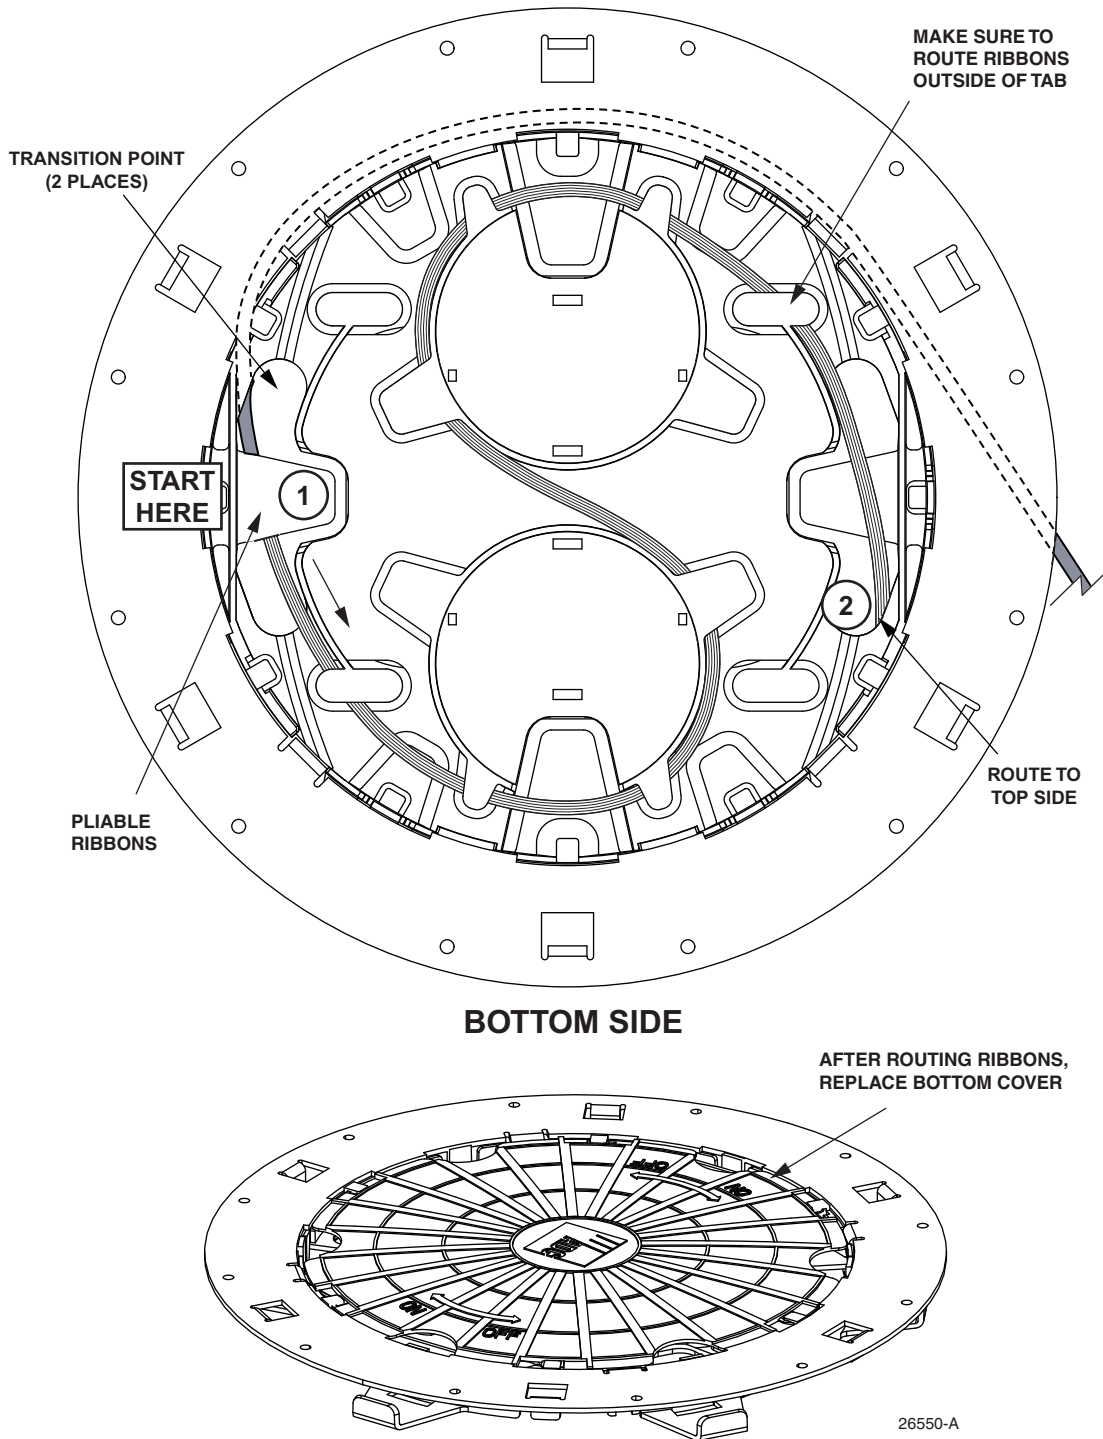
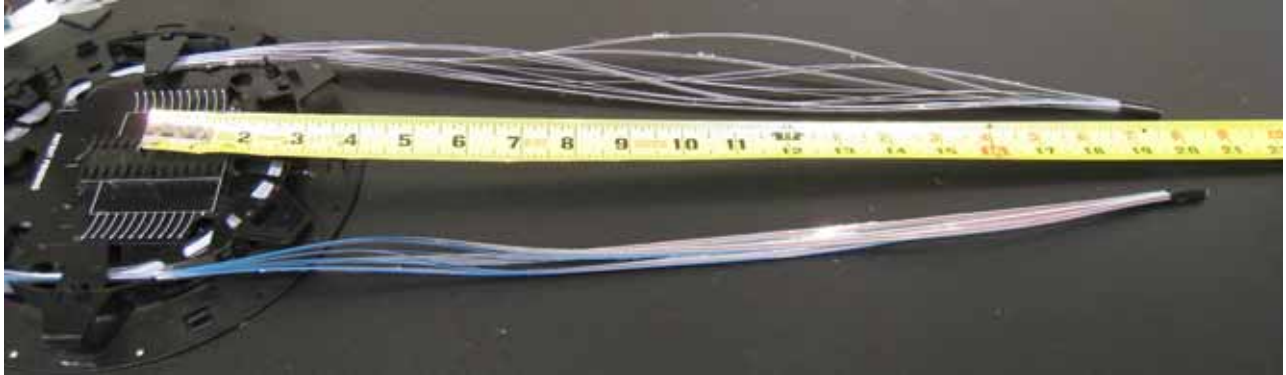

Figure 27. Pliable Ribbon Routing, Bottom Side (Clockwise Roll-Up Procedure), continued
Figure 28. Measuring Pliable Fibers for Cutting
1. Position the cable so the fiber breakout is positioned at the transition point from top to bottom (just beyond felt tape shown in Figure 27. Then route and tie down the fibers as shown in Figure 27.
- ▶ **Note:** The circled numbers shown in Figure 27 and Figure 28 are provided as an orientation aid when flipping the cable tray over.
2. Flip the tray over and continue routing the pliable fibers around the spools and back to the top side, as shown in Figure 27. After routing on bottom side, replace bottom cover.
3. Flip the tray over to the top side and extend the fibers straight. Measure 22 inches and cut ribbons as shown in Figure 28.
2. Extend the fibers straight as shown in Figure 28. Measure 22 inches and cut.